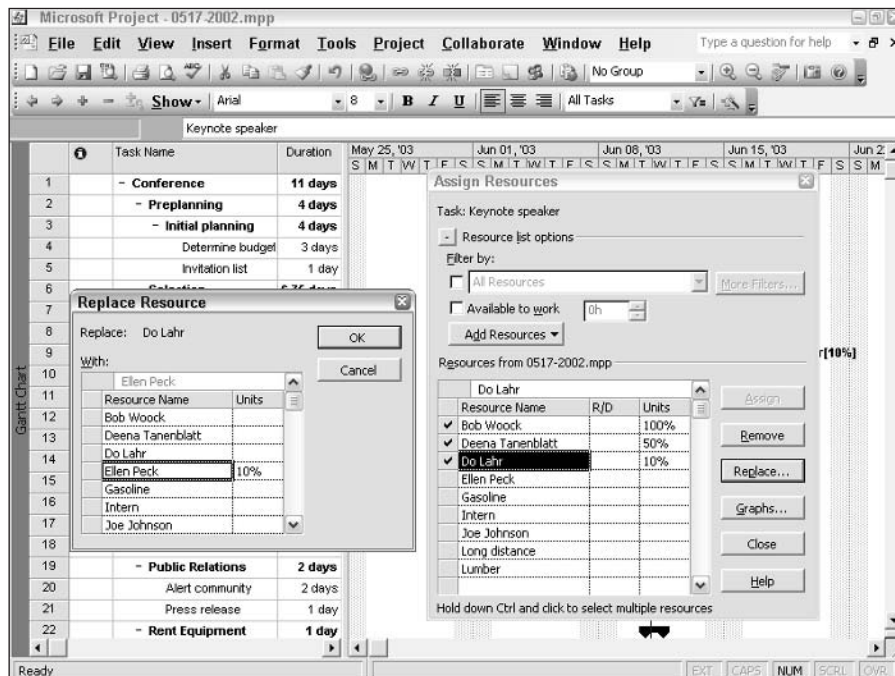

Figure 5-16: The Replace Resource dialog box looks very similar to the Assign Resources dialog box.
4. Select Replace. Project displays the Replace Resource dialog box, which enables you to easily select replacement resources, as shown in Figure 5-16.